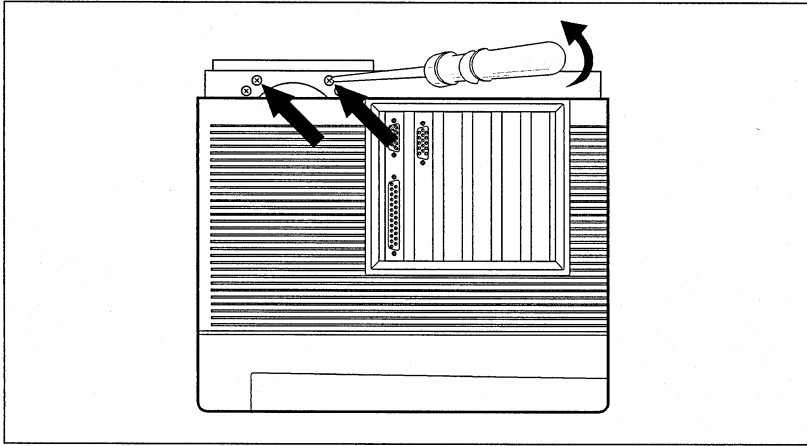

fig. 5-8
4. Then remove the two screws on the right side of the power supply (fig. 5-8). Carefully lift the power supply out, being careful not to disconnect any of the wires.